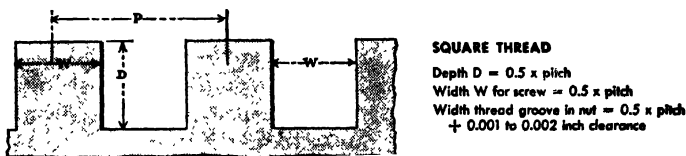

Fig. 17-7. The square thread. (The Shell Oil Company)
*The Square Thread* (Fig. 17-7). All surfaces of the square thread form are square with each other, and the sides are perpendicular to the center of the axis of the work. The depth, as well as the width, of the crest and root are equal. Because of the relatively small contact areas and lack of wedging characteristics, friction between matching threads is reduced to a minimum. Thus, this thread form is used for maximum transmission power.